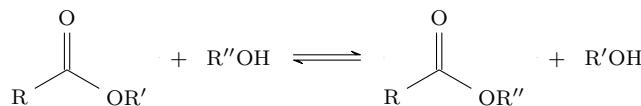

Figure 4.29: Acyl transfer: Transesterification.
- 3. Esters have three important reactions: Hydrolysis (Figure 4.26), transesterification (Figure 4.29), and amide formation (Figure 4.33).